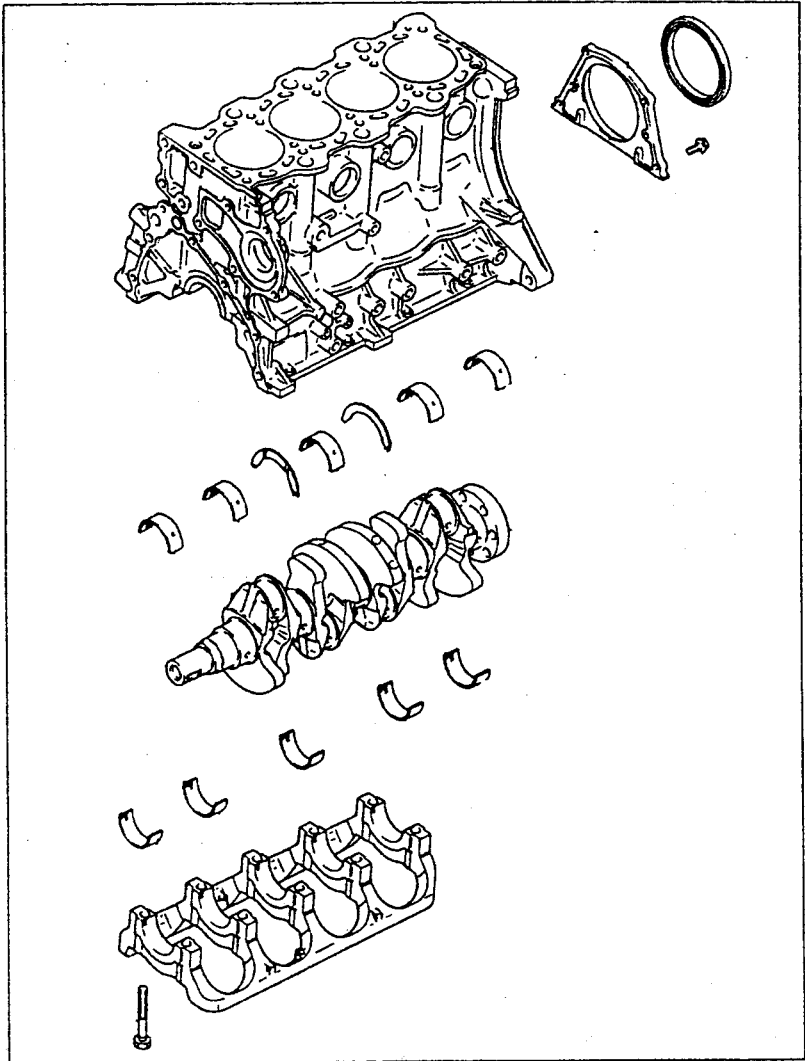
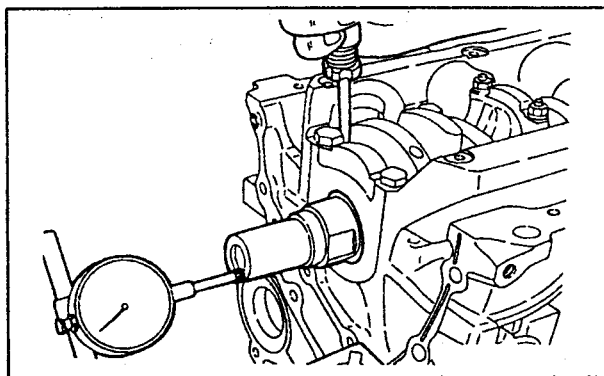

Fig. 1.44. — Exploded view of the crankshaft and the cylinder block of the 1.8 litre engine.
Fig. 1.47. — Checking the crankshaft end float.
Fig. 1.44 shows an exploded view of the crankshaft and the cylinder block for a 1.8 litre engine. The only major difference are the two flanges bearing shells of the 2.0 litre engine.
- Bearing shells of No. 3 bearing of a 2.0 litre engine have a flange to control the crankshaft end float. The 1.8 litre engine has the two half thrust washers, fitted at the position shown in Fig. 1.44. The crankshaft end float must be measured after installation as shown in Fig. 1.47. To do this, push the crankshaft to one side, using a strong screwdriver and measure on the other side between bearing shell flange and crankshaft thrust face with a feeler gauge. The end float should be between 0.05 and 0.18 mm (0.002 and 0.007 in.), but a wear limit of 0.25 mm (0.010 in.) is acceptable.